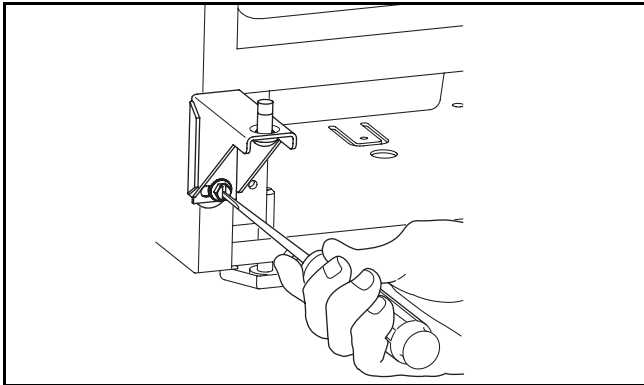

Figure 18
6. Install hinge on opposite side, bottom of cabinet (**Figure 18**). Align hinge outer edge with cabinet before tightening screws.